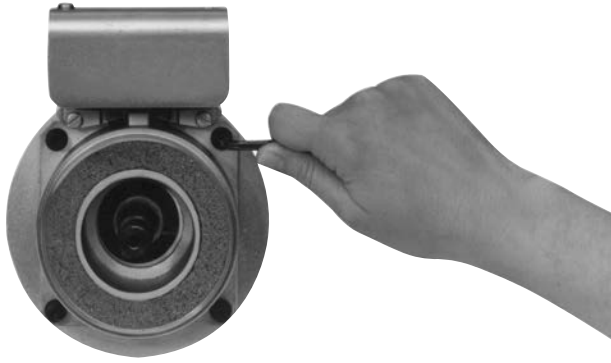

Figure 2
3. Once the mounting surface has been prepared, the magnet is bolted in place with cap screws and lockwashers. (Figure 2.)